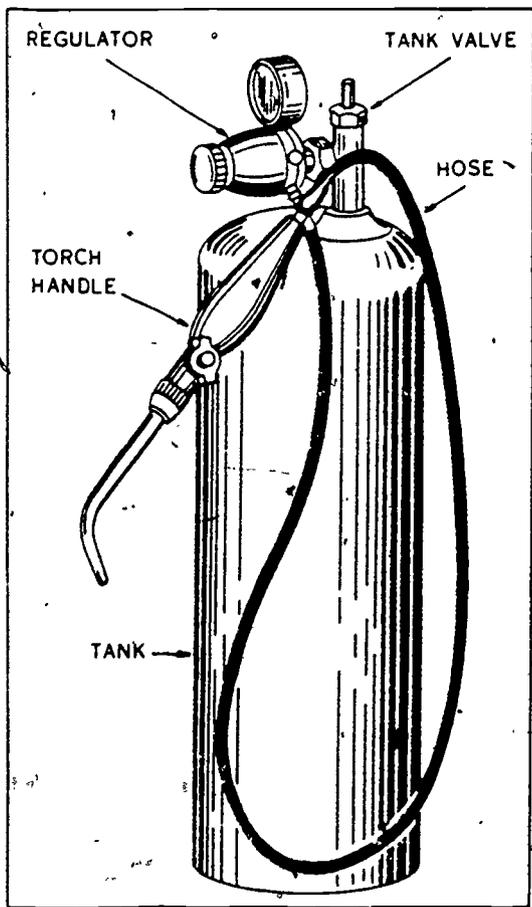

Figure 3-39 Acetylene torch
*Acetylene torch* The torch illustrated in figure 3-39 is used to solder copper pipe. It may also be used for other purposes around the job. You should wear goggles when using the torch. Never use acetylene at a pressure greater than 15 pounds per square inch. Never lay the torch down and walk off, leaving it burning. Never transfer acetylene from one cylinder to another. A propane torch is similar to the acetylene torch and is used for soldering small diameter copper tubing. It may also be used to thaw frozen pipe.